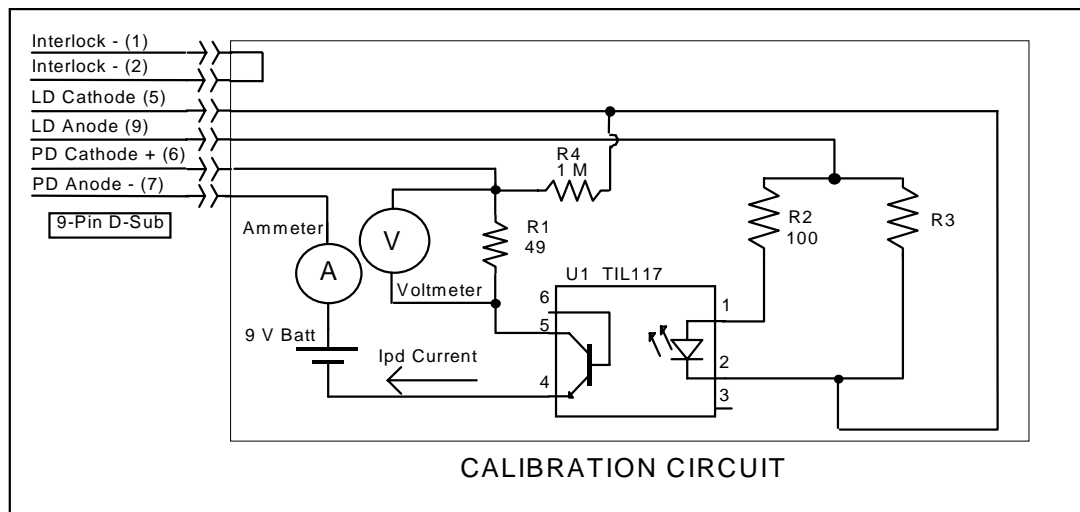

Figure 3.1  $I_{PD}$  Calibration Circuit
- 1 Select the LCM-39425 to be calibrated by pressing the appropriate (ADJUST) switch until the LAS indicator is orange. With the LASER output off, connect a calibrated ammeter to the PD Anode output of the LCM-39425, and connect the circuit of Figure 3.1 to the LASER and PD outputs.
If a calibrated ammeter (with 0.1  $\mu$ A resolution) is not available, place a calibrated DMM (with 0.1 mV resolution) to measure the voltage across the resistor, R1, as shown in Figure 3.1. Calculate the current in the following steps by using Ohm's Law:
- 1 With the LASER output off, connect a calibrated ammeter to the PD Anode output of the LCM-39425, and connect the circuit of Figure 3.1 to the LASER and PD outputs.